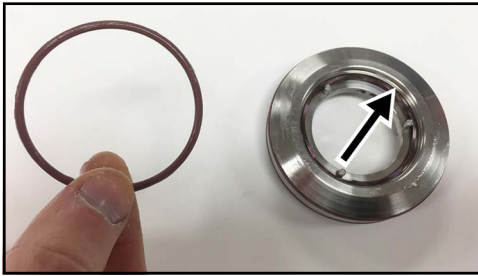

Figure 72 - Carrier-to-seal O-ring
3. Lubricate the carrier-to-seal O-ring and install it in the groove on the inside of the seal carrier as shown in Figure 72.